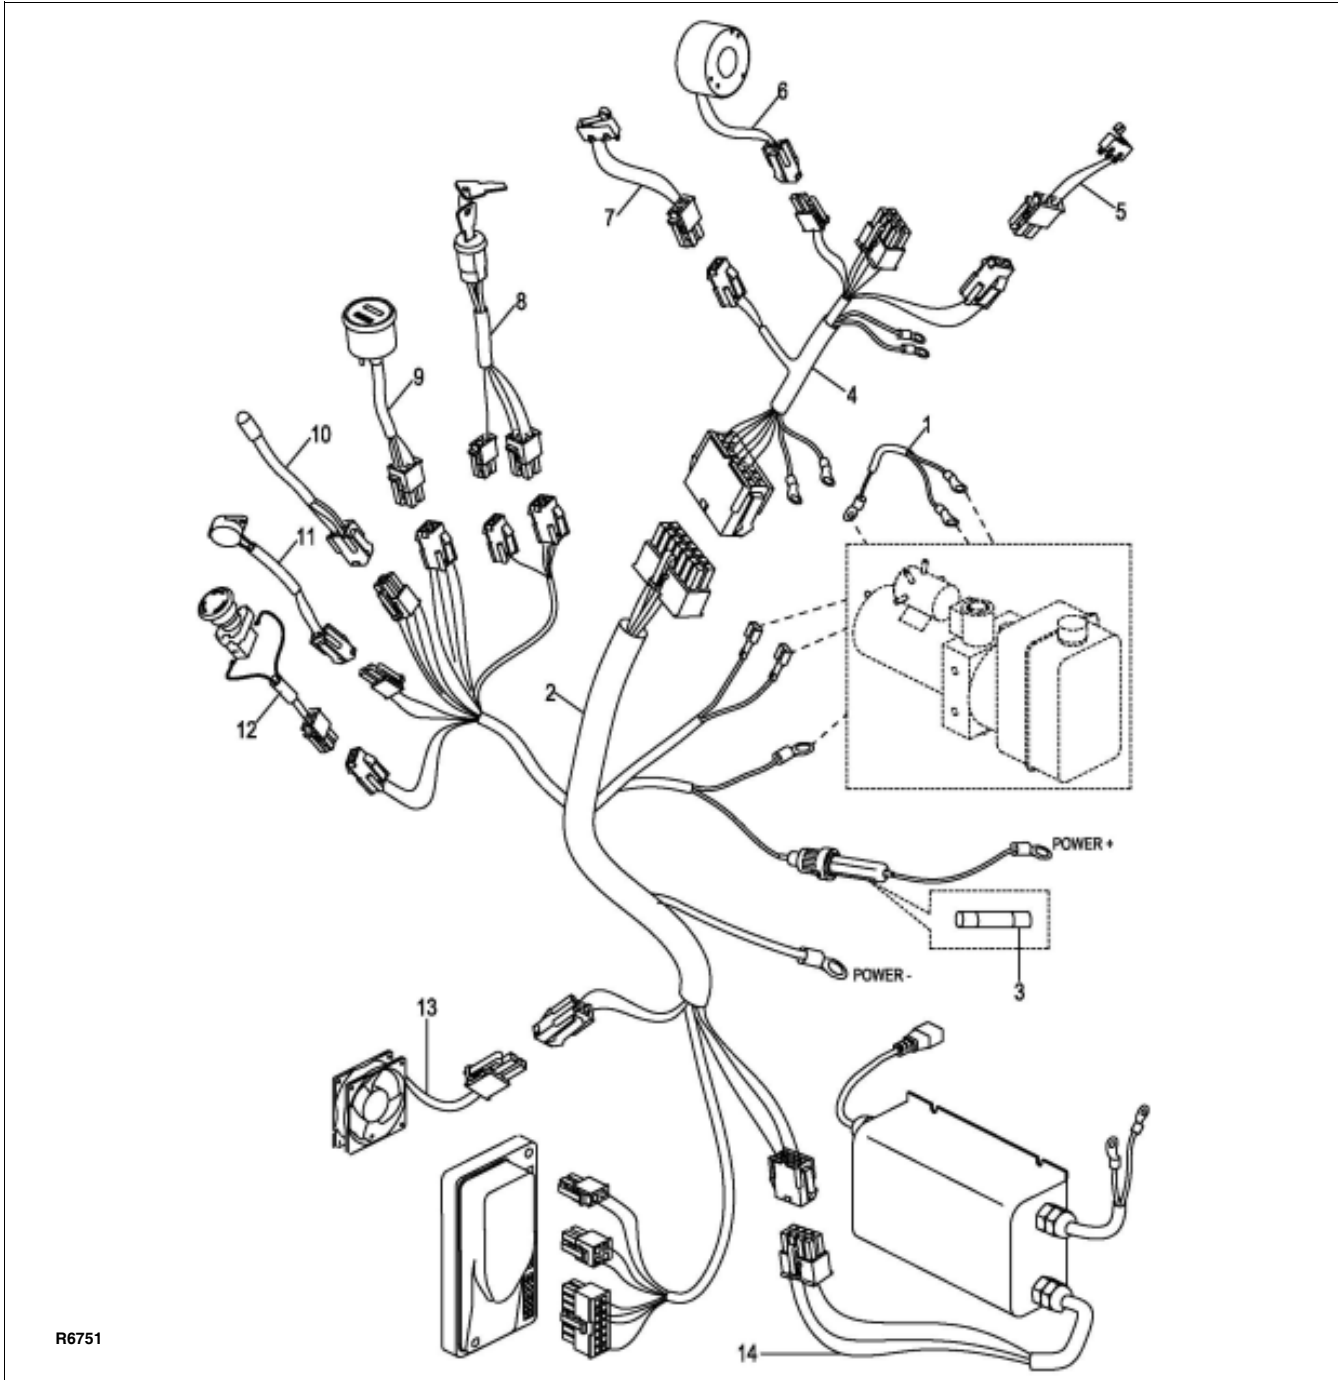

Figure 10-2 Wiring Harness
3. Tag and disconnect harness (2, Figure 10-2) from controller (3, Figure 10-1).
4. Remove two screws (1) and two lock washers (2). Remove controller (3) and heat sink (4) from bracket (8).
2. Reconnect harness (2, Figure 10-2) to controller (3, Figure 10-1).
4. Turn on the key switch (23) and emergency disconnect (20).
3. Tag and disconnect harness (2, Figure 10-2) from charger (17, Figure 10-1).
3. Reconnect harness (2, Figure 10-2) to charger (17, Figure 10-1).
5. Turn on the key switch (23) and emergency disconnect (20).
3. Tag and disconnect harness (2, Figure 10-2) from cooling fan (25, Figure 10-1).
4. Remove four screws (5), four lock washers (2) and four washers (6). Remove cooling fan (25) and guard (7) from bracket (8).
2. Reconnect harness (2, Figure 10-2) to cooling fan (25, Figure 10-1).
3. Tag and disconnect harness (2, Figure 10-2) from buzzer (24, Figure 10-1).
4. Remove two screws (10) and buzzer (24) from bracket (8).
2. Reconnect harness (2, Figure 10-2) to buzzer (24, Figure 10-1).
3. Tag and disconnect harness (2, Figure 10-2) from key switch (23, Figure 10-1).
4. Remove mounting nut and key switch (23) from bracket (8).
2. Reconnect harness (2, Figure 10-2) to key switch (23, Figure 10-1).
3. Tag and disconnect harness (2, Figure 10-2) from battery indicator (21, Figure 10-1).
4. Remove mounting nuts and bracket and remove battery indicator (21) from bracket (8).
2. Reconnect harness (2, Figure 10-2) to battery indicator (21, Figure 10-1).
3. Tag and disconnect harness (2, Figure 10-2) from emergency disconnect (20, Figure 10-1).
4. Remove the knob from the emergency disconnect (20).
5. Remove mounting nut and remove emergency disconnect (20) from bracket (8).
2. Install the knob on the emergency disconnect (20)
3. Reconnect harness (2, Figure 10-2) to emergency disconnect (20, Figure 10-1).
4. Tag and disconnect harness (4, Figure 10-2) from limit switch (10, Figure 12-9).
5. Remove two screws (1) and limit switch (10) from bracket (2).
2. Reconnect harness (4, Figure 10-2) to limit switch (10, Figure 12-9).